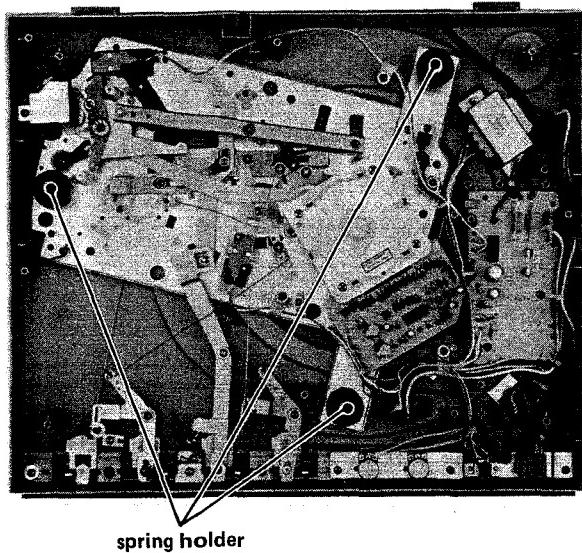

Fig. 4-1
3. If this distance is not within specification, adjust the spring holders accordingly (refer to Fig. 4-1).